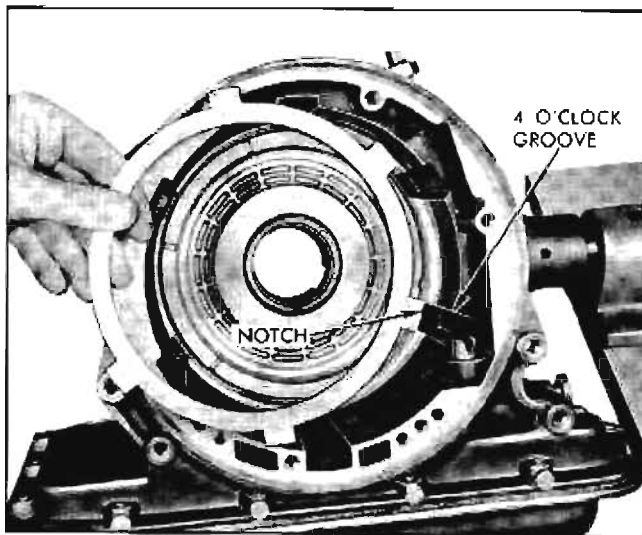

Fig. 7A-66 Installing Reverse Clutch Reaction Plates
3. Insert rear pump and reverse piston with guide pins into case (Fig. 7A-65). Insert a length of .010"-.015" shim stock between piston outer seal and case. Run shim stock around entire diameter of seal to seat the seal.